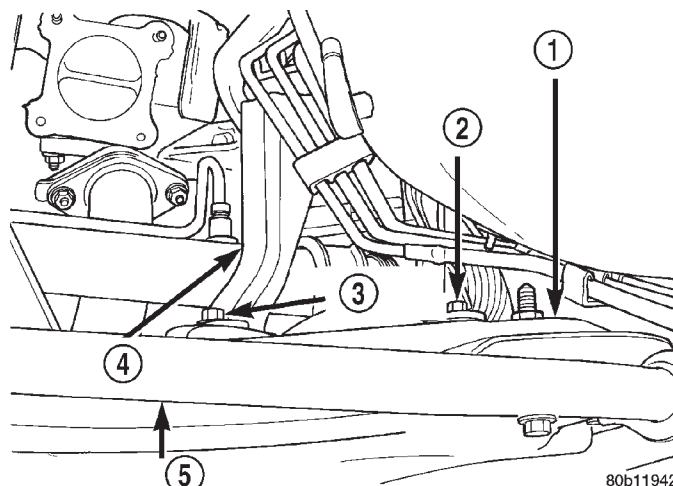

Fig. 32 HCU Mounting Bracket Rear Bolts
(12) Remove the 2 bolts (Fig. 32) attaching the back legs of the HCU mounting bracket to the front suspension crossmember.
(5) Install the 2 bolts (Fig. 32) attaching the back legs of the HCU mounting bracket to the front suspension crossmember.